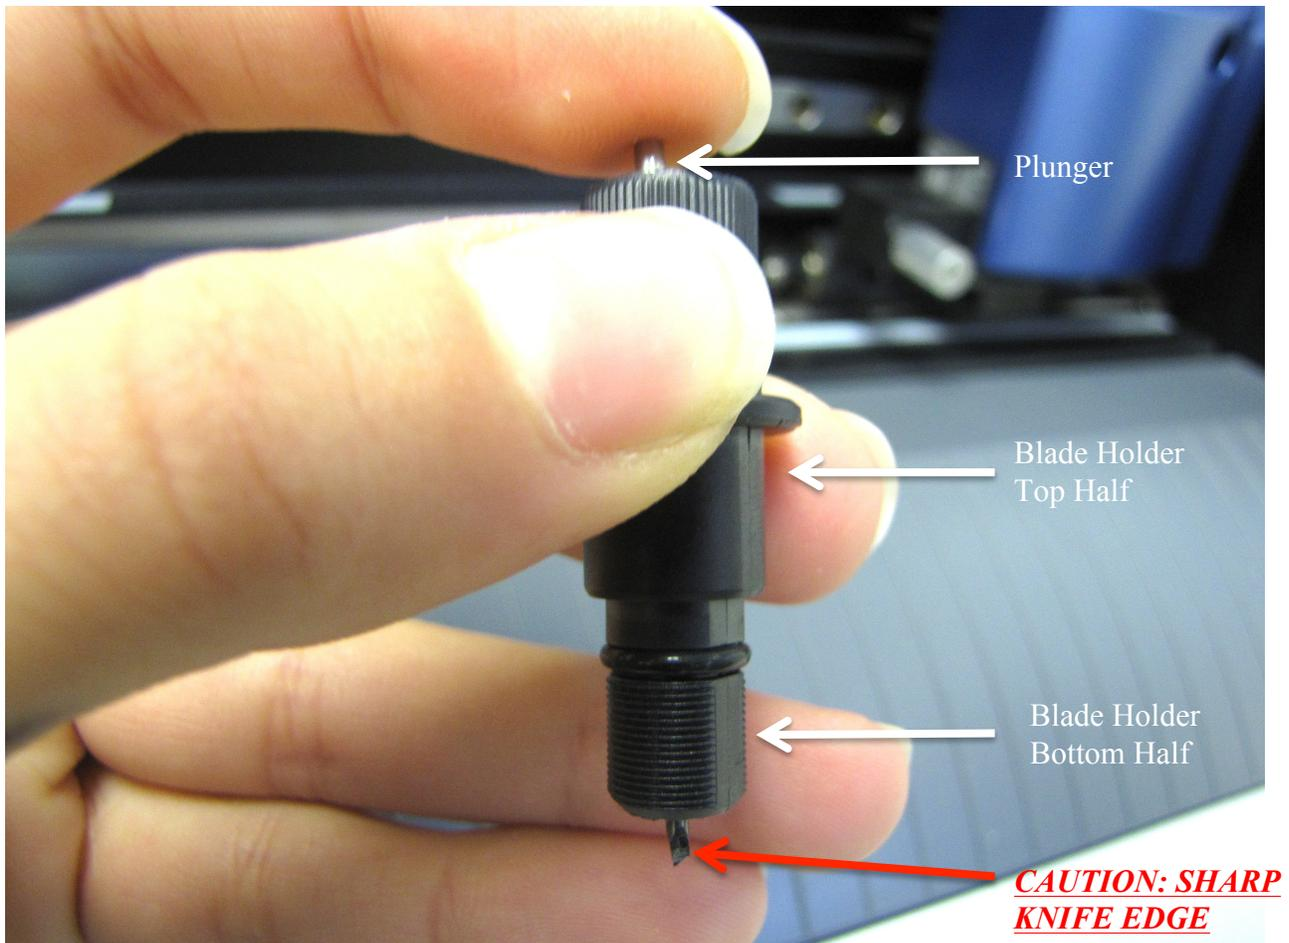

Figure 3: Blade Holder
4. If the **BLADE TIP** is damaged, hold the **BLADE HOLDER LOWER HALF** in your left hand and with your right hand, gently rotate the **BLADE HOLDER TOP HALF** counter-clockwise until you have both parts separated (Figure 3).
5. Press **DOWN** on the **PLUNGER** sticking out, and notice the blade moving down as you do. If you **LET GO**, the **PLUNGER** and blade move back into their initial position. Note: The **PLUNGER** is not attached to the bottom blade. It's used solely to move the blade to a safe position where you can now pull the blade out without having to touch the sharp edge itself (Figure 3 & Figure 4).